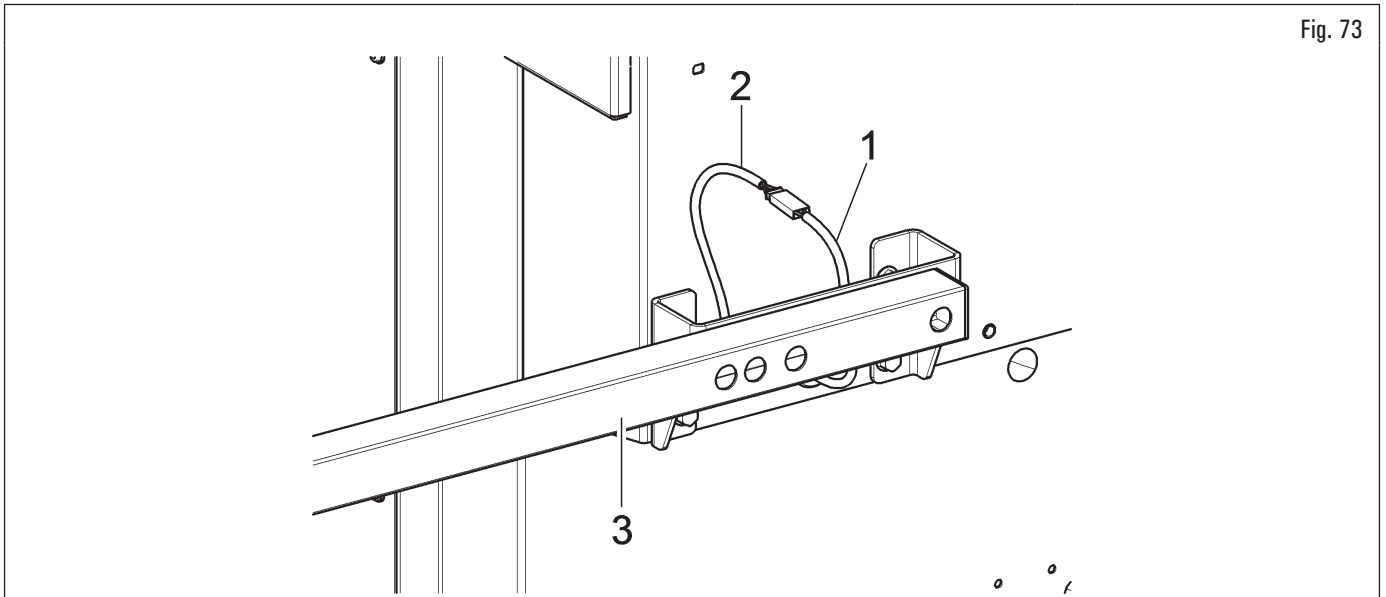

Fig. 73
3. connect the connector (Fig. 73 ref. 1) of the cable coming from inside the equipment to connector (Fig. 73 ref. 2) of the cable coming from the gauge arm. Fit the section of the cable with the connectors inside the arm (Fig. 73 ref. 3);